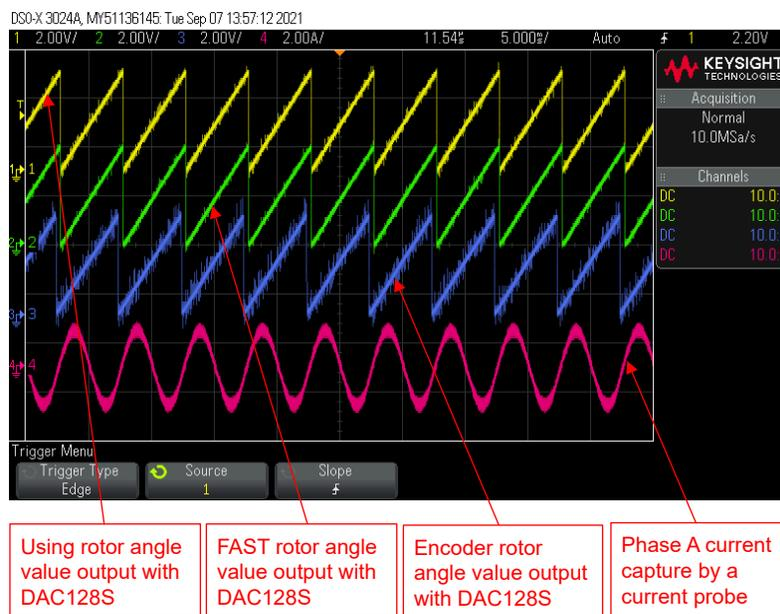

Figure 3-50. Build Level 4: Rotor Angle with FAST and Encoder, Phase Current Waveforms at Forward Rotation
- The estimated rotor angles from FAST and Encoder are shown in Figure 3-50. The motor is running with FAST at forward rotation by setting motorVars_M1.speedRef_Hz to a positive value.
Use DAC128S085EVM with an oscilloscope to monitor rotor angle of the motor from the FAST estimator and encoder, and a phase current of the motor as shown in Figure 3-50 when the motor is running at forward rotation by setting motorVars_M1.speedRef_Hz to a positive reference value.